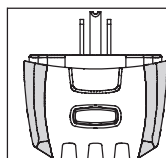

Fig. 5
STEP 4: After installation of the new outlet, switch or fixture, test the wiring with the attached outlet tester (Fig. 5) or non-contact AC Volt sensing tip.